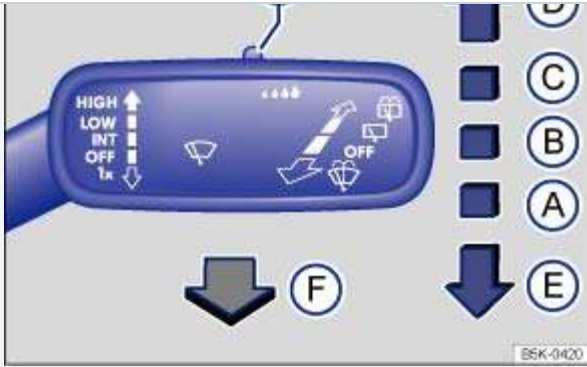

Fig. 90 Operating the front windshield wipers.
- Press the windshield wiper lever down briefly ⇒ Fig. 90 when the ignition is off.
Carefully fold the wiper arms back onto the windshield before driving! Switch the ignition on and press the windshield wiper lever down briefly ⇒ Fig. 90. The wiper arms move back to their original position.